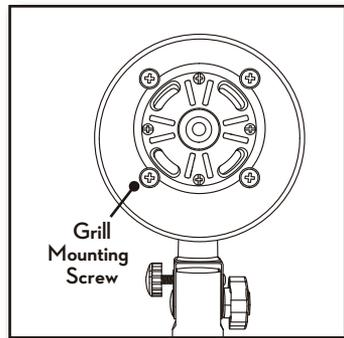

Figure 10
1. Remove the four rear grill mounting screws from the motor housing. Figure 10.